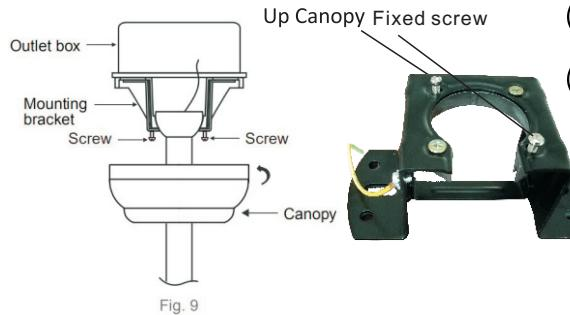

Fig. 9
- (2) Rotate the motor assemble until the "Check Tab" on the mounting bracket has dropped into the "Registration Slot" on the hanging ball and seat firmly (Fig.7 Fig.8 Fig.9)